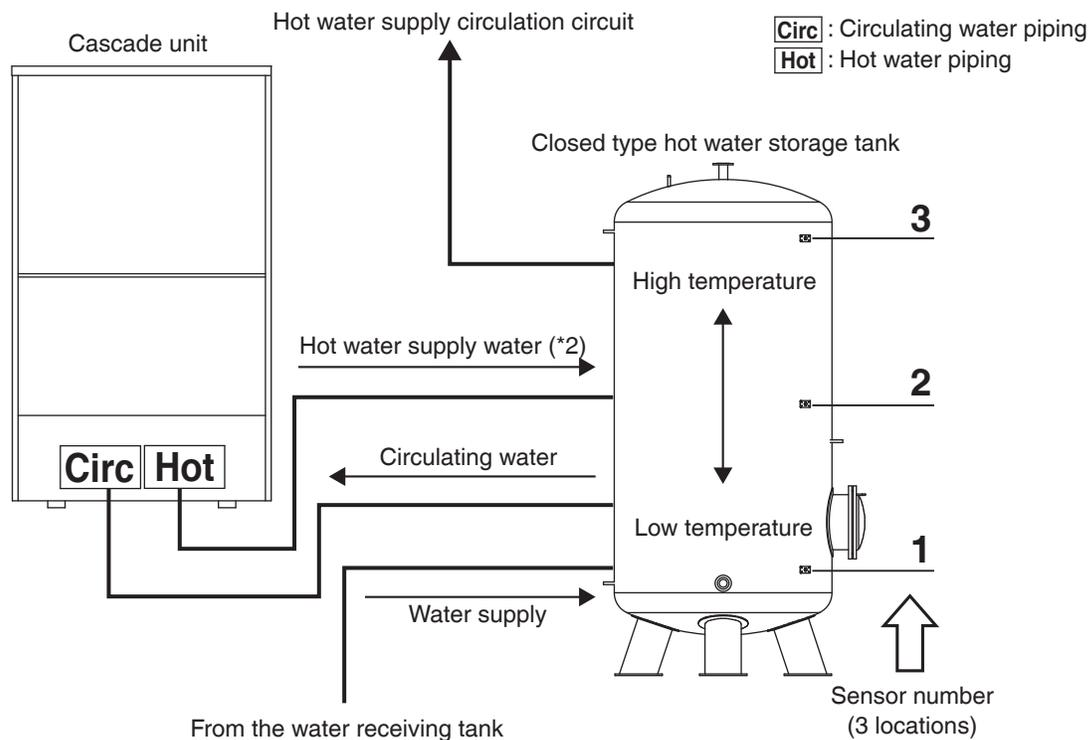

Figure 1
Water Reheating start temperature	Water Reheating starts when the water temperature at the top of the closed type hot water storage tank (position 3 in Figure 1) falls below the set temperature. The set temperature can be set in the range of 50 to 80°C (86 to 176°F).
Water Reheating end and water heating end temperature differential	Water Reheating ends when high temperature water inside the closed type hot water storage tank has accumulated and the water temperature at the top of the closed type hot water storage tank (position 3 in Figure 1) exceeds the set temperature (Water Reheating start temperature settings + differential).
Water Heating start temperature	The Water Heating start detection sensor can be selected from 1 or 2 in Figure 1. Water Heating start temperature can be set in the range of 30 to 80°C (86 to 176°F)(*1).
Water Heating end temperature	The Water Heating end detection sensor can be selected from 1 or 2 in Figure 1. Water Heating end temperature can be set in the range of 30 to 80°C (86 to 176°F) (*1).
*3 The SECOND CODE NO. "01" and "02" correspond to the sensor numbers "1" and "2" (refer to Figure 1) of the closed type hot water storage tank.